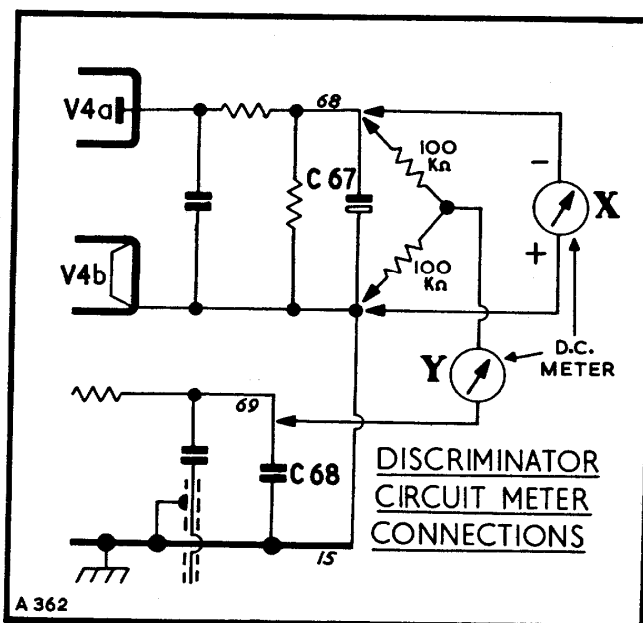

Fig. 5
V.H.F. circuits. Turn the volume control to minimum if the loudspeaker or output meter is not connected. Check that the zero adjustment of the d.c. meter is correct. Connect the two 100 K Ω resistors as shown in Fig. 5. Connect the d.c. meter, switched to the 10V range, in position X (Fig. 5) when adjusting the v.h.f. i.f. and r.f. transformers, including L21. Connect the d.c. meter in position Y (Fig. 5), using the 100 K Ω resistors mentioned above, when adjusting the discriminator transformer (last v.h.f. i.f.t.) secondary winding (L22). Adjust the signal generator attenuator so that during alignment, the d.c. voltage across C67 (meter position X) is maintained as near as possible to 8 volts without the damping unit in circuit, and 4 volts with the damping unit in circuit. If necessary, roughly align all the v.h.f. i.f. trimmers so that the appropriate output can be obtained. The third v.h.f. i.f. transformer secondary winding (L22) must be adjusted for exactly zero d.c. volts with the d.c. output meter connected in position Y.